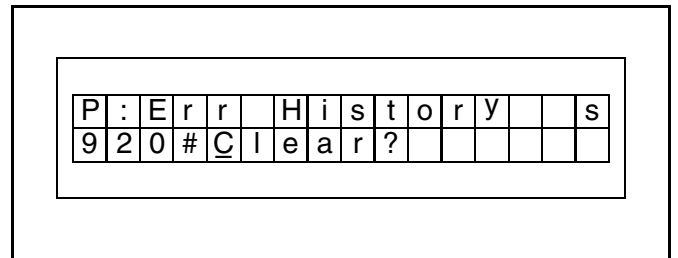
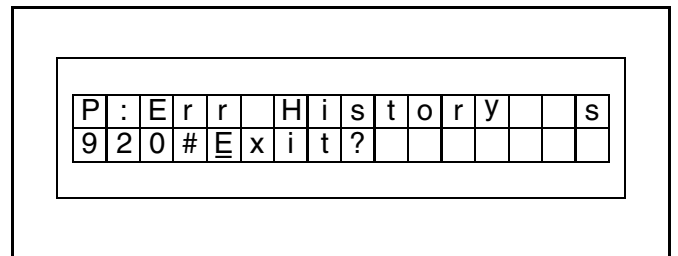

Figure 36
Figure 37
- Continuously scrolling through the list with the up (▲) or down (▼) key will eventually loop you to the “Clear?” message (Figure 36), or the “Exit?” message (Figure 37).